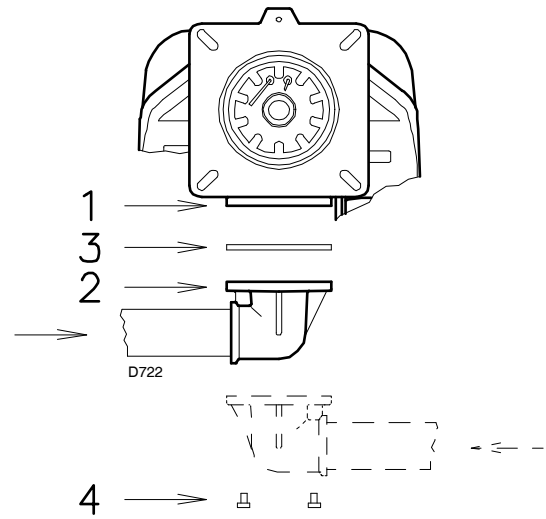

Fig. 20
- The gas train must be connected to the gas attachment 1) (Fig. 20) with the flange 2), the gasket 3) and the screws 4) supplied with the burner.